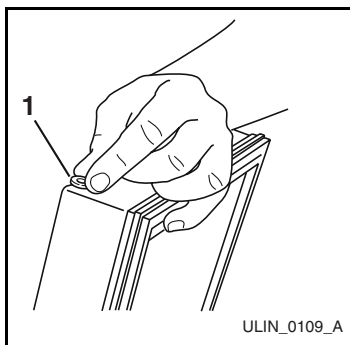

Figure 26
- Relocate plastic spacer/bushing (Figure 26) on bottom of door to opposite side, and place door on bottom hinge pin. Clean out bushing hole in door bottom with a screwdriver if necessary.